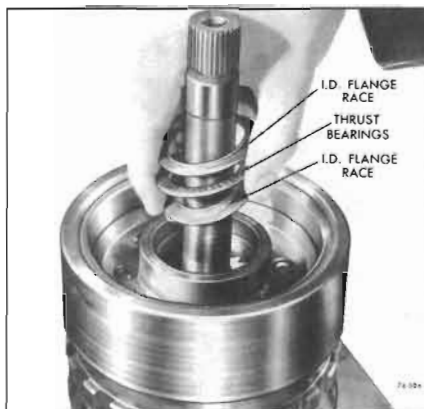

Figure 74-594
c. Install the second race, center flange up. See Figure 74-594.